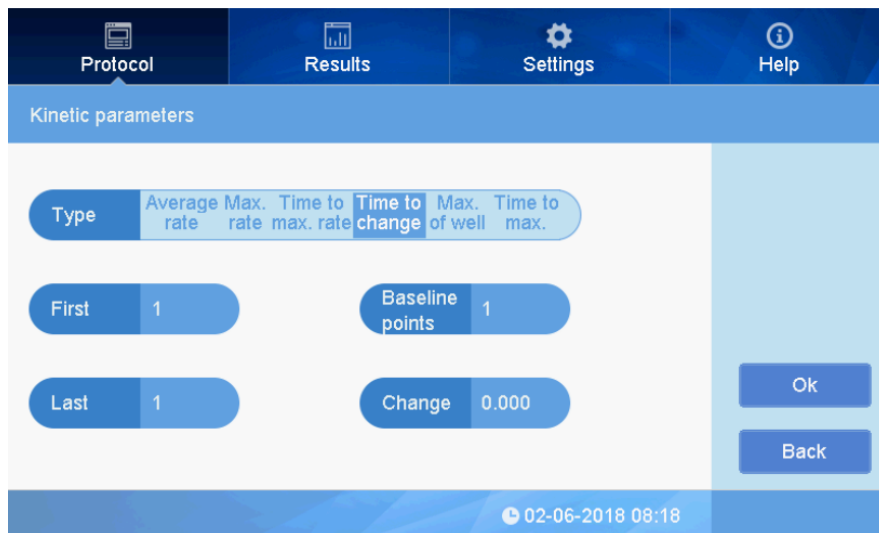

Fig 27
- ② When Kinetic is “On”, you may click “Readings”, and input the number of desired measurement readings.
- ③ Click the hours, minutes or seconds on the “Interval” button to set the interval between each reading. The time format is: HH/MM/SS,
- ④ At the right side of the screen, click “Para...” to set the kinetic parameters, See Fig 27: